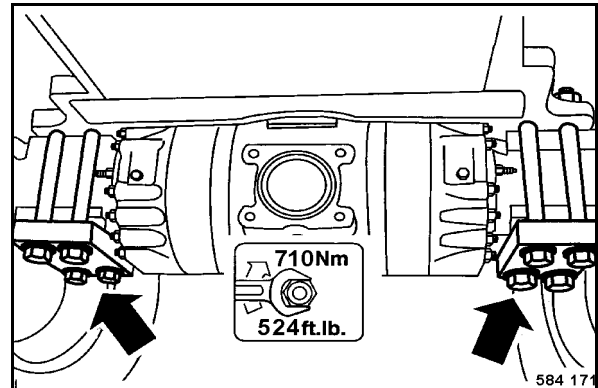

Fig. 168
- Check all fastening nuts on axle mounting bolts (Fig. 168) for tight fit.